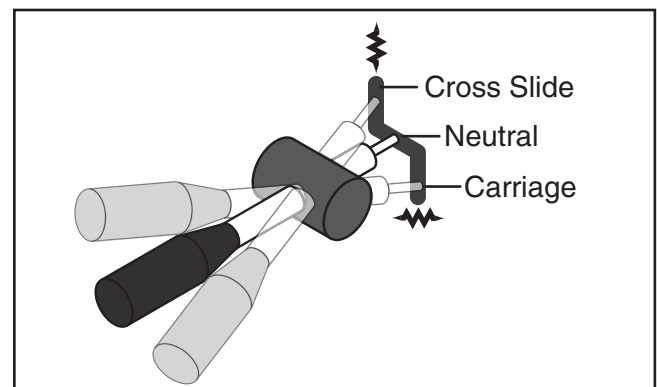

Figure 53. Feed change lever positions.
3. Move the feed change lever handle down to engage the cross slide and up to engage the carriage, as shown in **Figure 53**.